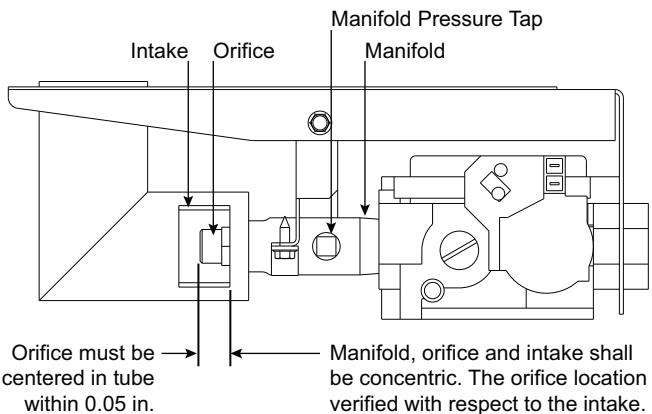

Fig. 50 — Orifice Projection
Refer to Fig. 50 for maximum projection and placement dimension for orifice face to manifold tube. The manifold, orifice and intake shall be concentric. The orifice must be centered in the intake tube.
2. If factory orifice has been removed, check that each orifice is tight at its threads into the manifold pipe, and that orifice projection does not exceed maximum value (see Fig. 50).
2. Remove manifold pressure tap plug from manifold and connect pressure gauge or manometer (see Fig. 50).
10. Turn off unit, remove pressure manometer and replace the manifold pressure tap plug (see Fig. 50).
Ensure each replacement orifice is tight as its threads into the manifold pipe, and the orifice projection does not exceed maximum value (see Fig. 50).